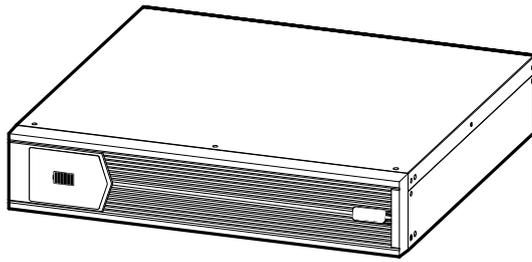

Figure2-2 Battery box appearance of 2-3kVA
For 2-3kVA standard backup model, besides UPS host, we will provide a battery box, for 1 kVA(L), 2-3kVA(L) long backup model, the battery box can be provided according to use needs. The corresponding battery box appearance is as shown in Figure2-2.